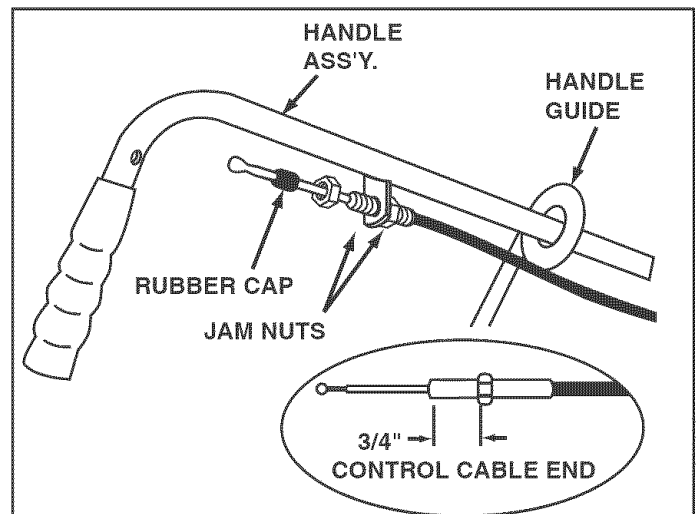

FIGURE 23
### STEP 22: (SEE FIGURE 23)
- Assemble grip (OO) to grip assembly.
- Assemble grip assembly to handle assembly using a 5/16" x 1-1/2" hex bolt (M) and 5/16" nylock nut (V).
- Assemble the ball end of the cable wire (shown in figure 23) up through the hole in a cable end fitting (LL) and then slide it back inside the curled edge of the fitting.
- Assemble cable end fitting (LL) over 1/4" weld bolt on grip assembly and secure with one 1/4" nylock nut (R) and then back nut off 1/2 turn.